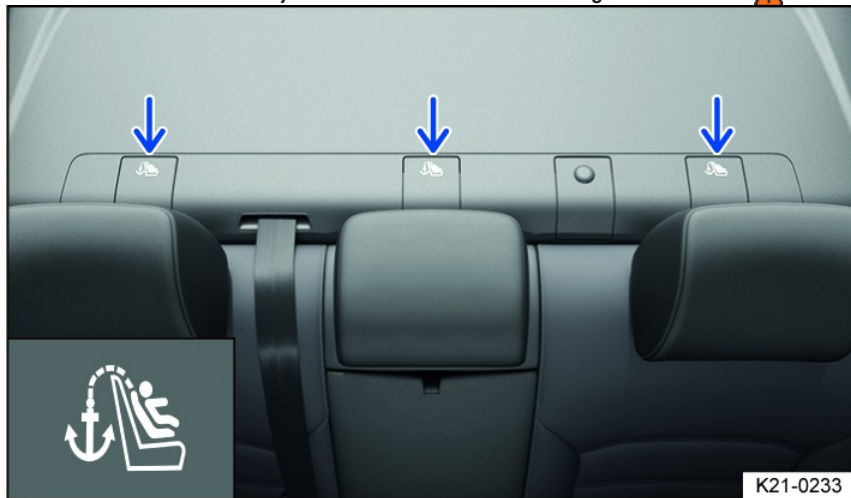

Fig. 35 On the rear side of the rear bench seat: Top tether anchorages for the top tether safety belt.
The anchorages suitable for top tether are labeled with a symbol and may have the label “TOP TETHER” *fig. 35*. Fasten the top tether safety belt only to the top tether anchorages designed for this purpose.
6. Locate the top tether anchorage for the respective seat *fig. 35*.